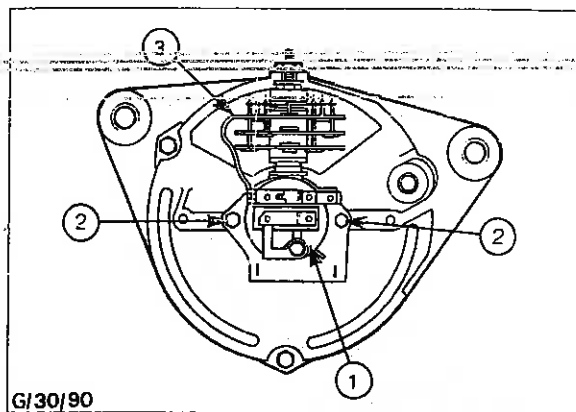

Fig. 47 - Replacing the Brush Box
3. Place the brush box assembly (1) in position and secure with the two screws (2). Connect lead (3) to the rectifier - see Fig. 47.